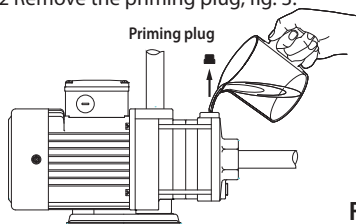

Fig.3
- 3.1.2.2 Remove the priming plug, fig. 3.